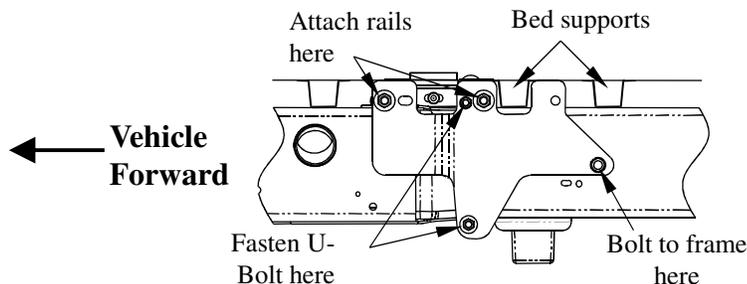

Figure 5
12. Line up the mounting slots on the frame brackets with the threaded studs on the ends of the rails. See Figure 5 to identify which holes on the frame brackets to use. Loosely attach frame brackets to rails with 5/8" hex nuts and conical toothed washers as shown in Figure 1.